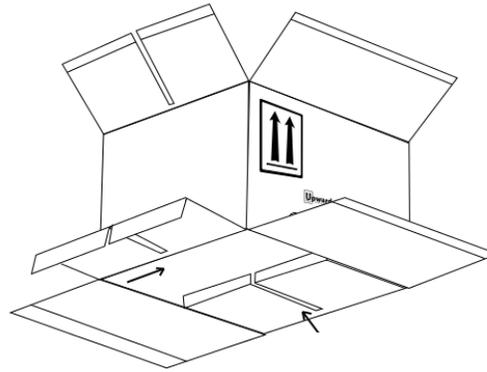

Figure 1
1. Fold 4 small side flaps on bottom of box. Tuck to form box bottom. (See Figure 1)